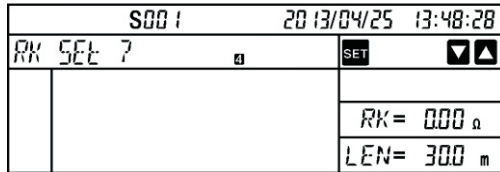
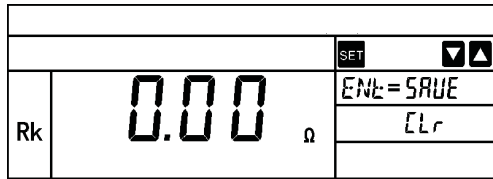
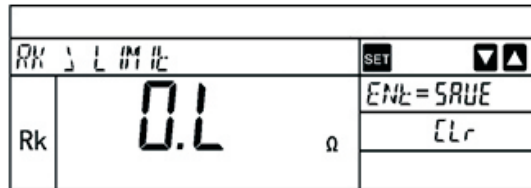

Fig.19
Fig.20
Fig.21
Set the range to 2Ω or 20Ω. It can not be measured the residual resistance (RK) on the Test Leads on the other ranges . Select Rk Set ? (Fig. 19) with the arrow keys on the CONFIG_SETTING Screen, and press the ENTER/SAVE Key to display the Rk Setting Screen (Fig.20) .
Connection of 4-Wire , 3-Wire or 2-Wire measurement are different, please see 8-1-1 ,8-1-2 or 8-1-3. Press the Test Button to measure Rk. The measured results will not be saved until the ENTER/SAVE is pressed. The CONFIG_SETTING Screen (Fig. 19) is displayed when the ESC is pressed down .
The Rk value is being kept even powering off the instrument. To clear the saved Rk values, select “Clr” on the Rk Setting Screen and press the ENTER/SAVE Key. Then the value restores to 0.00Ω. Then CONFIG_SETTING Screen (Fig. 19) is displayed again. Note)Rk values cannot be saved when a signal showing low power displays. Rk values exceeding following values cannot be saved : 2ΩRange: max 2Ω ; 2 0Ω Range: max 9Ω ; A message shown in Fig.21 is displayed when the measured Rk is exceeding above values.
The message shown in Fig.21 is also displayed when a fuse blows.